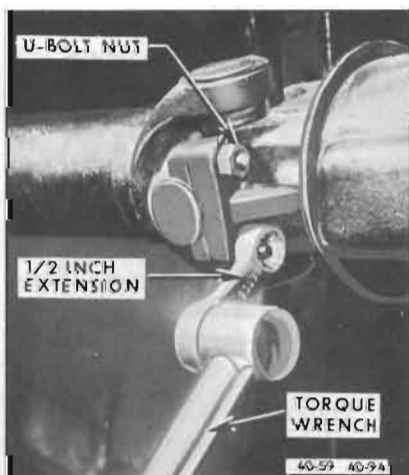

Figure 40-94—Using Extension to Torque U-Bolt Nuts
6. Install "U" bolt clamps and nuts. Draw nuts up evenly and torque to 15-18 lb. ft. using a 1/2 inch extension such as J-9113. (On 49000, install four pinion flange bolts and torque evenly to 75-95 lb. ft.). See Figure 40-94.